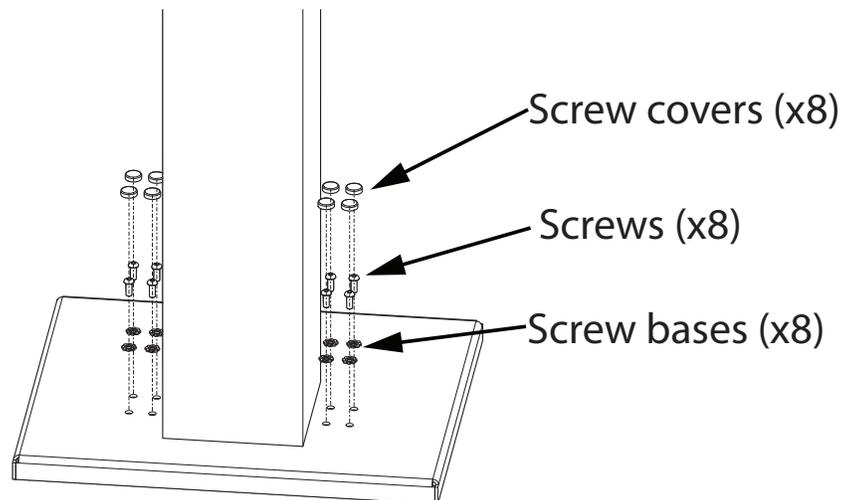

Figure 23. Attach the stand to the floor bracket
4. Secure the stand onto the floor bracket using the screw cover bases, screws, and screw covers as show in Figure 23.